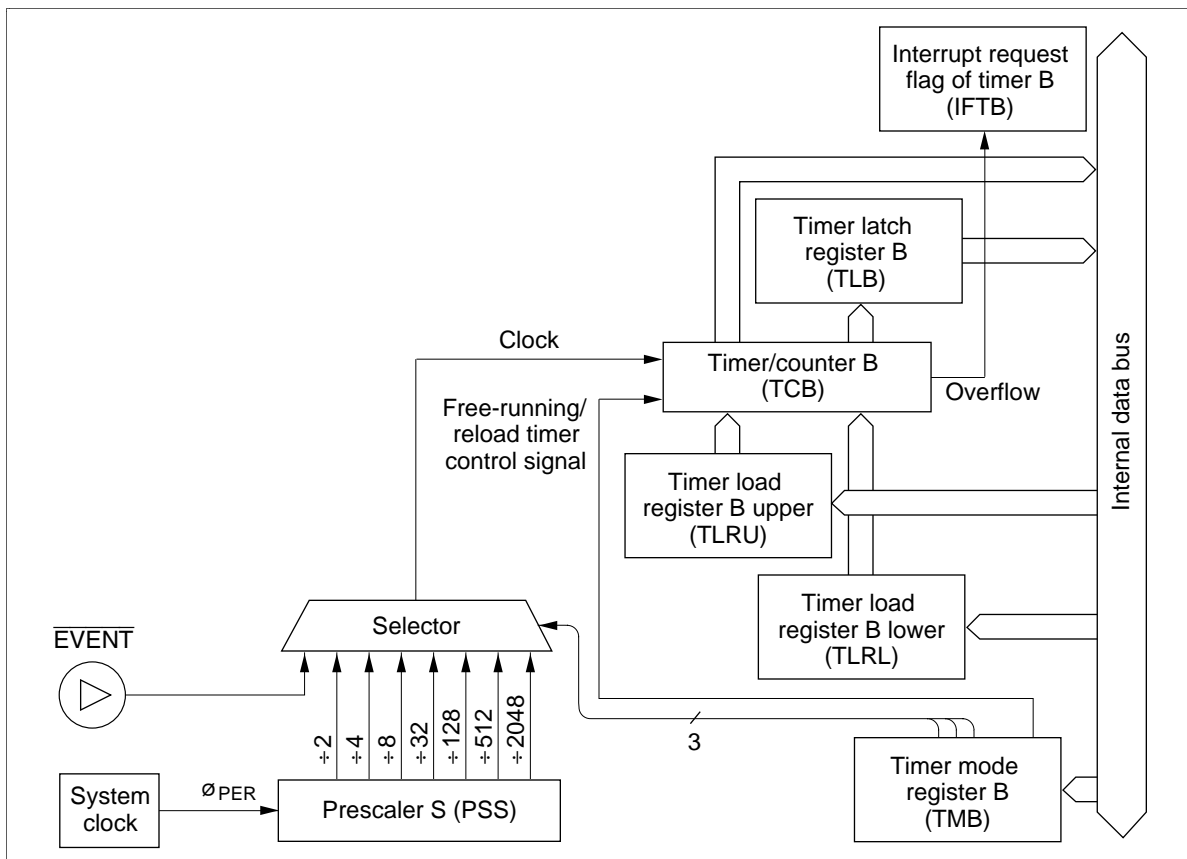

Figure 27 Timer B Free-Running and Reload Operation Block Diagram
**Timer B (TCBL and TLRL: \$00A, TCBU and TLRU: \$00B):** Eight-bit write-only timer load register (TLRL and TLRU) and read-only timer counter (TCBL and TCBU) located at the same addresses. The eight-bit configuration consists of lower and upper digits located at sequential addresses. A block diagram of timer B is shown in figure 27.